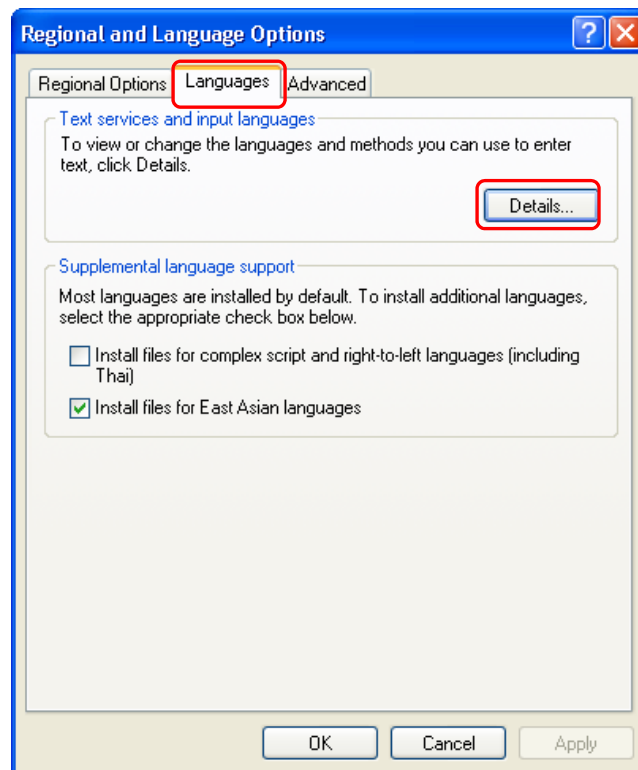

Figure IV-1. Regional and Language Options Window (Languages Tab)
2. Select the Languages tab (Figure IV-1).